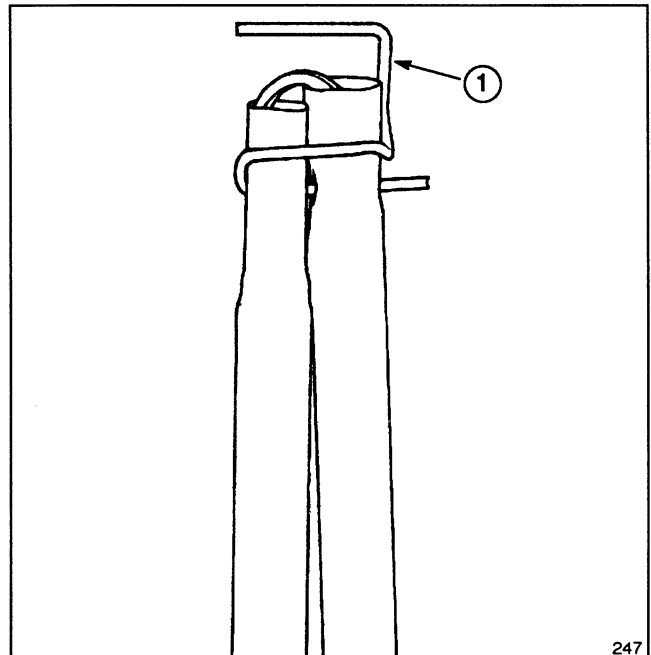

Figure 1
1. Remove shipping wire secured to upper and lower tube sections (Fig. 1).